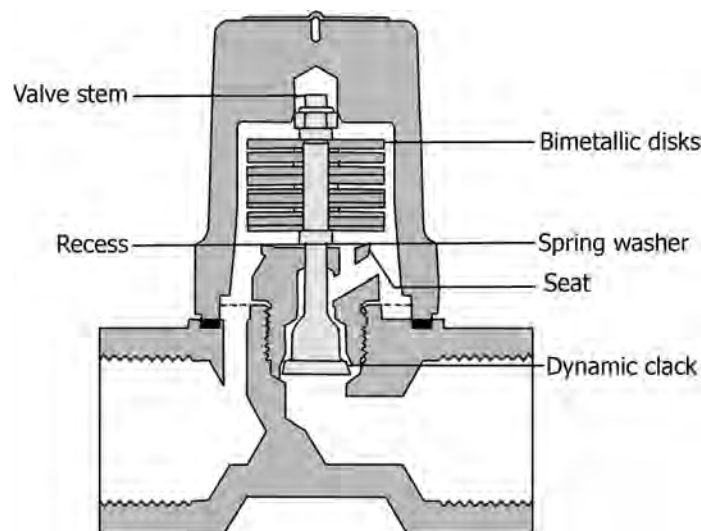

FIGURE 12.23 Multicross elements as used in the Spirax Sarco SM range of bimetallic steam traps. (Courtesy: Spirax Sarco.)
- A better design is the bimetallic disk-type steam trap as shown in Figure 12.23.